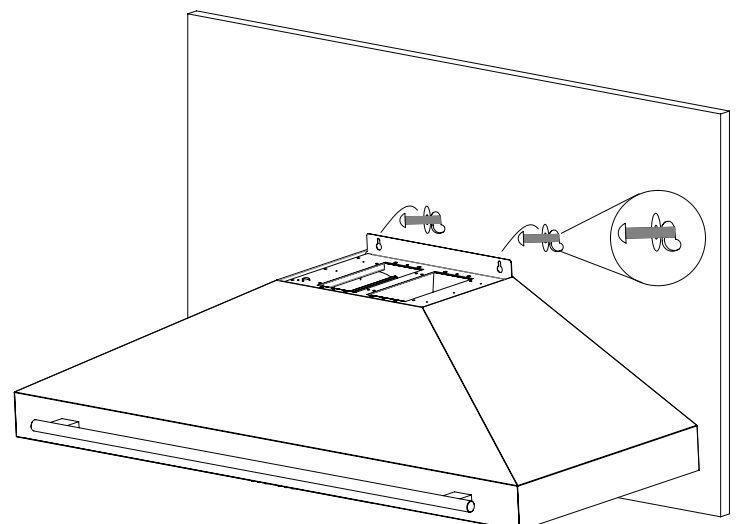

Figure 3.
- Hang the hood onto the #6-32 screws (B) installed into the expansion anchors (A), with flat washers (C) in place.
- Once properly seated, fully tighten the screws to secure the hood — without overtightening. See Figure 3.